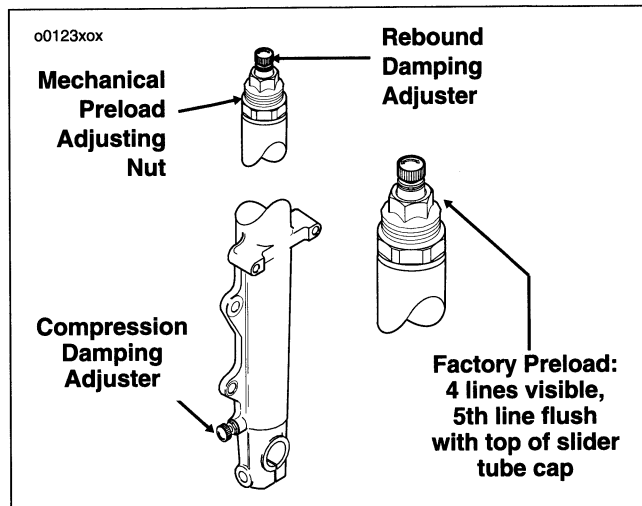

Figure 27. Front Suspension Adjustments
See Figure 27. To adjust the front fork spring preload, turn mechanical pre-load adjusting nut with a 7/8 in. wrench clockwise (CW) to increase preload. Turning nut counterclockwise (CCW) decreases preload.
- See Figure 27. Make all suspension adjustments in one or two click increments.
Fork Preload	See Figure 27.